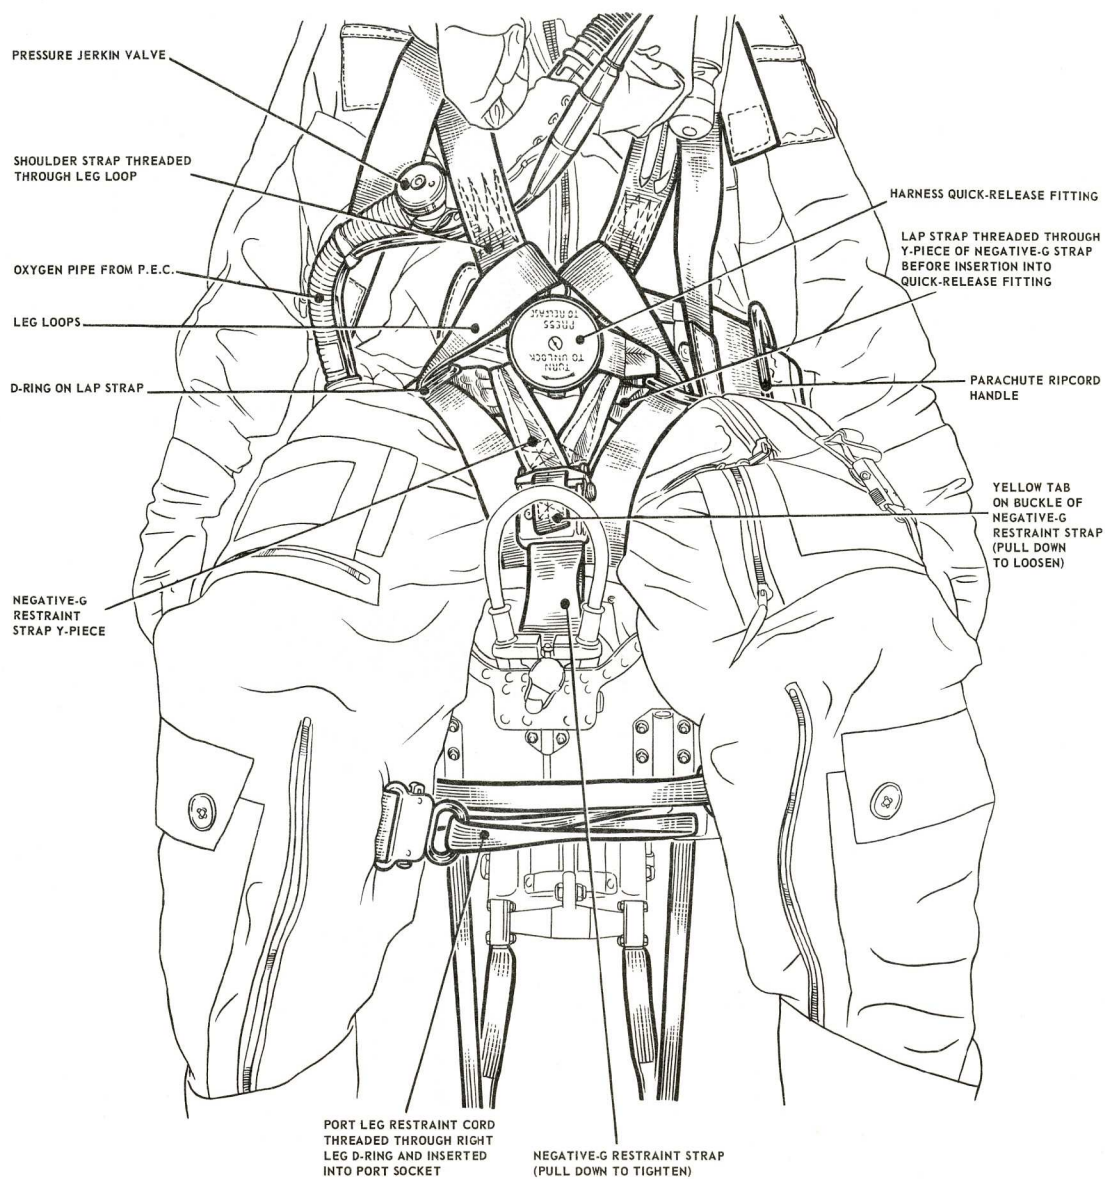

Fig. 8. Arrangement of leg restraint cords
17 The procedure for strapping-in is as follows, refer to fig. 8 to 10 as necessary :-
- (1) Ensure that the safety pins are correctly fitted in the 'safe for parking' condition.
- (2) Remove the dust cover from the P E.C. and fit it into the stowage on the right hand side of the seat pan.
- (3) Check that the static rods from the drogue gun and the barostatic time release unit are secured correctly
- (4) Grasp each lap strap and shoulder strap of the harness, pull sharply on each in turn and check for security
- (5) Sit in the seat and adjust its height; ideally the head should be central against the headrest wedge pad. Connect the personal component of the P E.C. to the seat component.
- (6) Connect the personal survival pack lowering line to the corresponding fitting on the life jacket or pressure jerkin as appropriate, ensuring that it passes outside the left leg.
- (7) Pass the left leg restraint cord through the right leg garter D-ring and plug it into the socket above the left snubbing unit. Pass the right leg restraint cord through the left leg garter D-ring and plug it into the socket above the right snubbing unit. Pull sharply on both cords to ensure that they are locked correctly in their sockets. It is immaterial which cord is secured first but it is essential they are not interlaced (fig. 8).